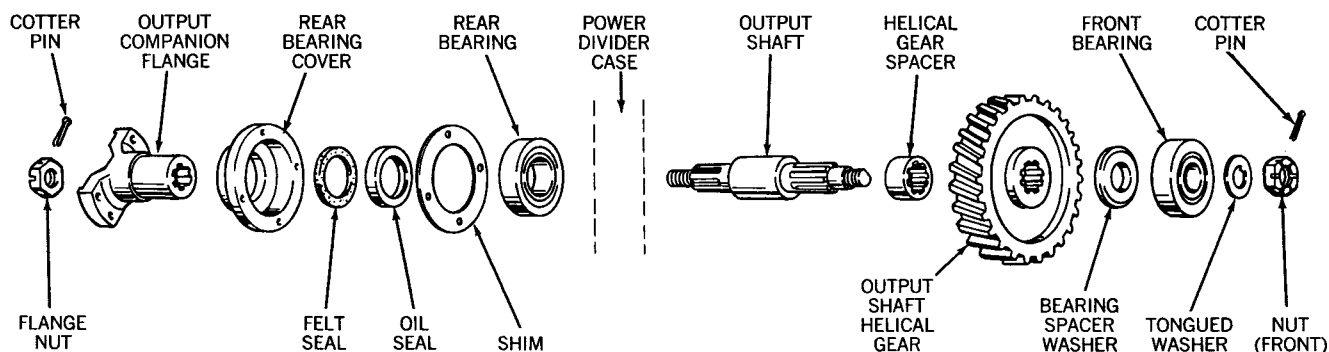

Fig. 147. Exploded View of Output Shaft
- 2.** Refer to figure 147 for identification of output shaft parts. Install output shaft rear bearing in divider case. Lubricate bearing.